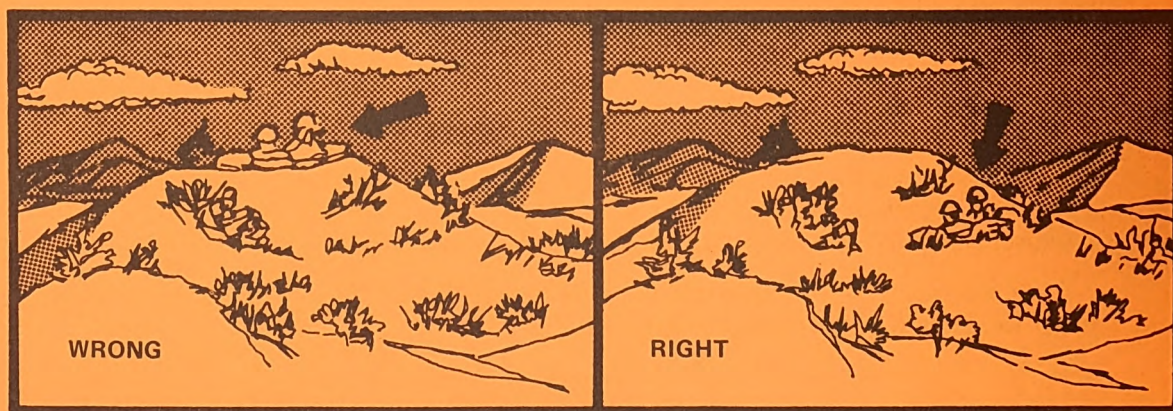

Figure 1.
- (1) Maximum observation of the desired area (specified by the platoon leader).
- (2) Cover and concealment for the occupants of the OP.
- (3) Concealed routes to and from the OP.
c. Usually, the best location for an OP is on or near the military crest of a hill. Topographical crests should be avoided because of the possibility of being skylined. It may be appropriate to establish the OP well down the forward slope when observation is restricted by the terrain (figure 1).